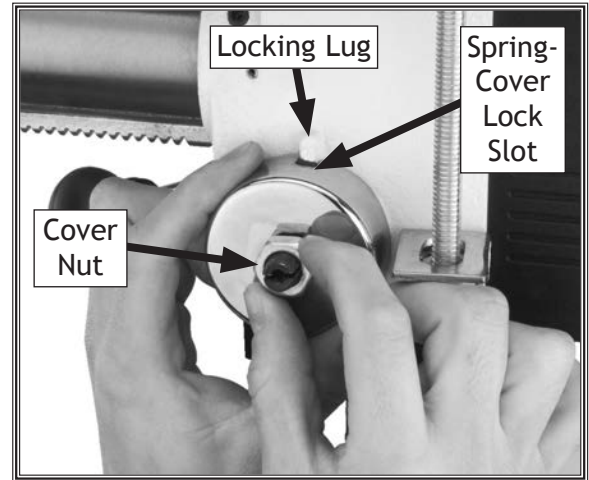

Figure 43. Hold the spring cover tightly while loosening jam nut and cover nut.
- While holding the spring lock cover against the side of the headstock so the cover stays splined with the locking lug, as shown in **Figure 43**, loosen the jam nut and loosen the cover nut approximately $\frac{1}{4}$ " each.
- Pull the cover outward just enough to disengage the spring-cover lock slot from the locking lug (see **Figure 43**).